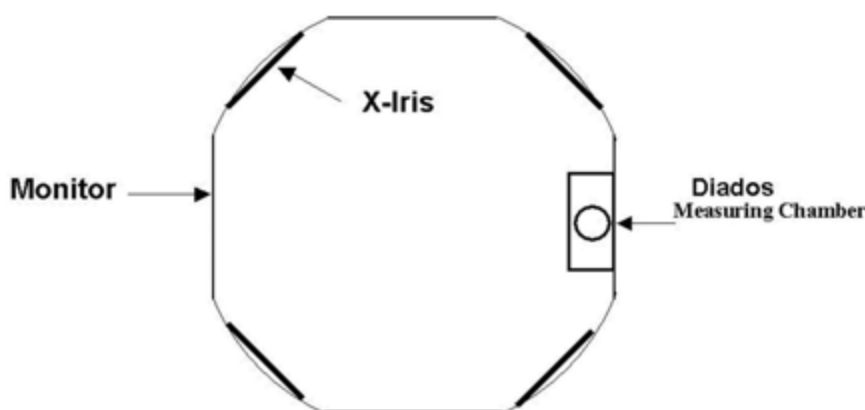

Fig. 27:
- Place the dose chamber on the table so that the chamber is on the right or left side of the monitor (Fig. 27 / p. 42).